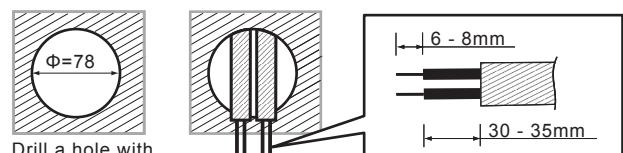

FIG. 9
3.4.2.1 To install the detector, please drill a hole with diameter of 78mm on ceiling board and keep the power cable outside. Please strip off 6 - 8mm of cable sheathing for wiring (See FIG.9).